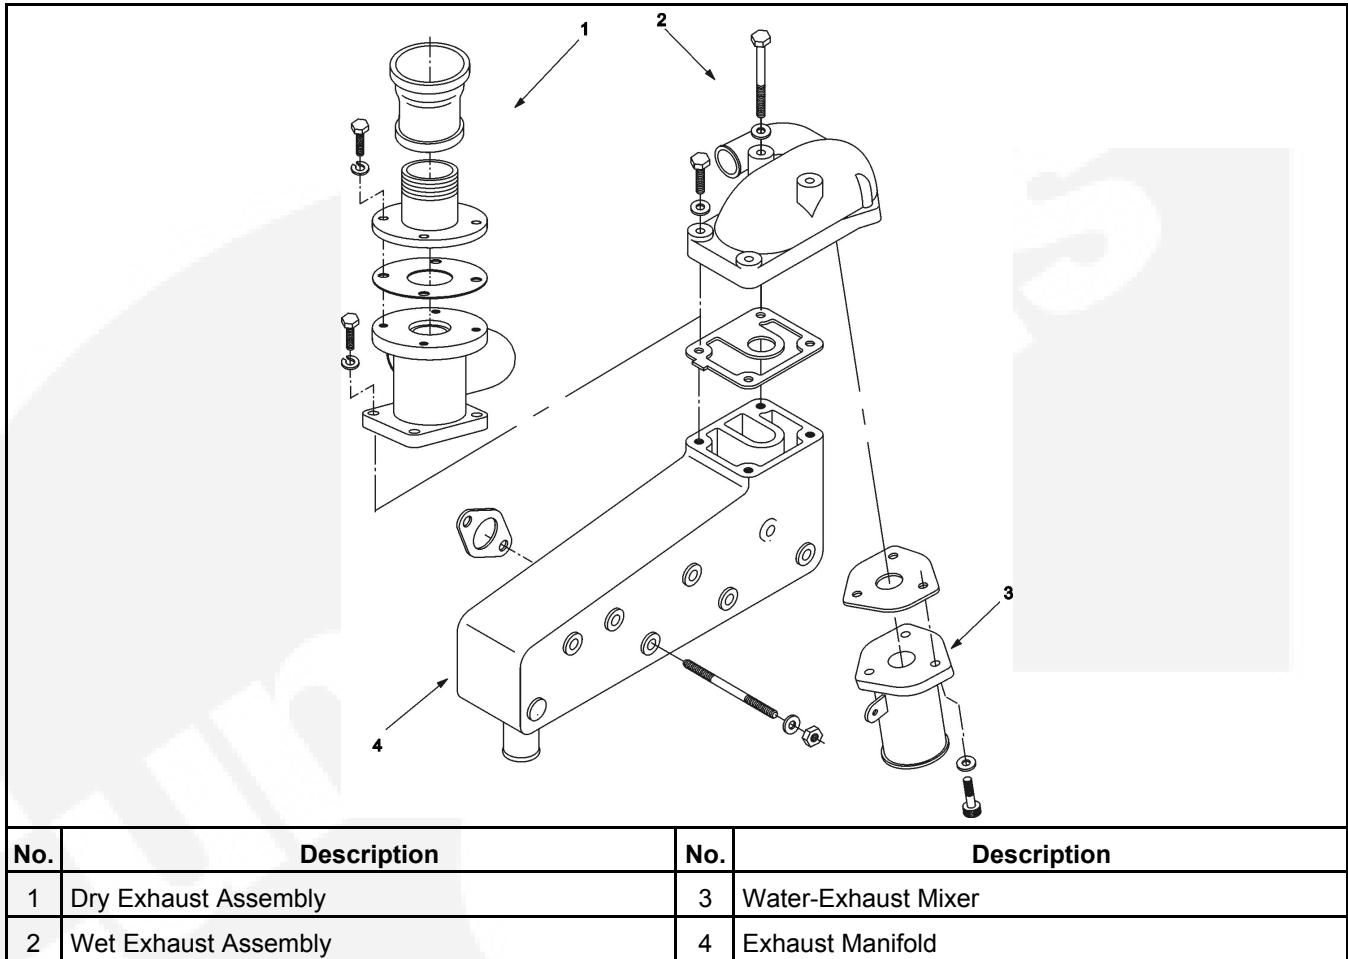

FIGURE 37. MDKDP, MDKDR, MDKDV
MDKDP, MDKDR, MDKDV: (Figure 37) When reassembling, use new manifold and mixer gaskets. Torque the manifold nuts (2 per port) and mixer or dry exhaust flange bolts (4) to 21-32 Nm (16-23 ft-lb). Torque the wet exhaust hose adapter flange bolts (3) to 8.7-13.0 Nm (6.4-9.6 ft-lb).